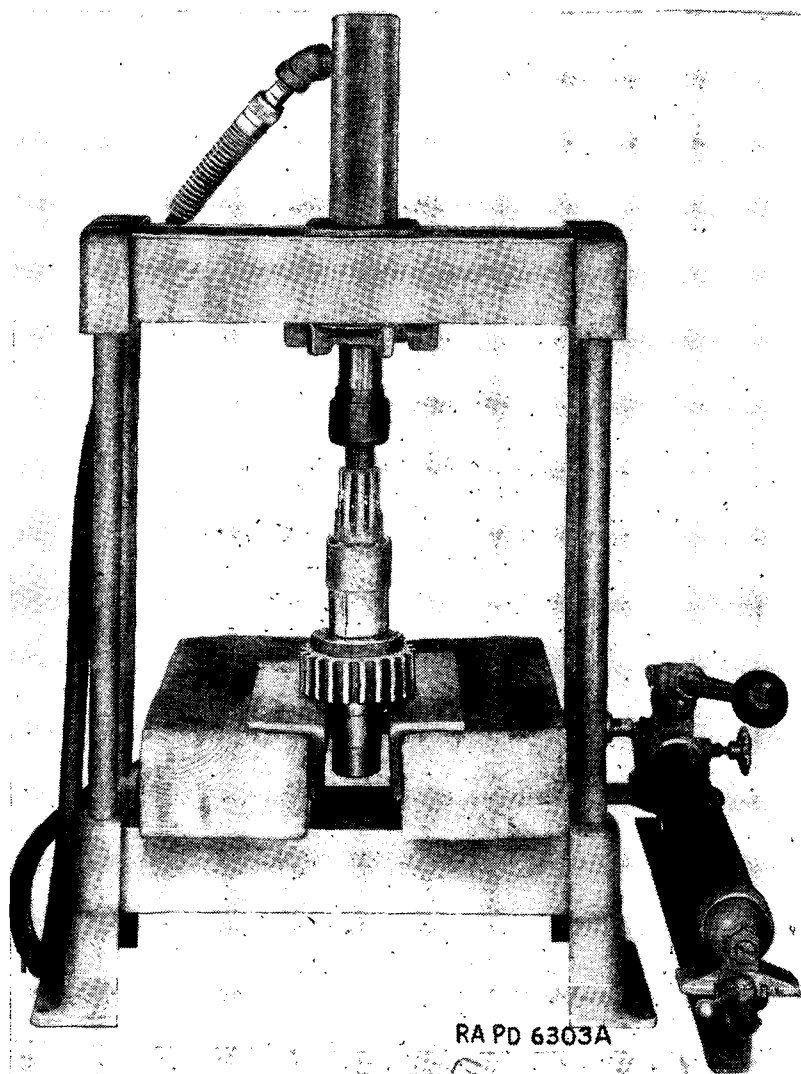

FIGURE 131.—Pressing clutch gear on front drive shaft.
**37. Reassembly of components.**—*a. Transfer case front drive shaft.*—Replace front-drive shaft clutch gear—brass drift, hammer, press. Replace Woodruff key and set shaft and gear in press and reassemble (fig. 131).